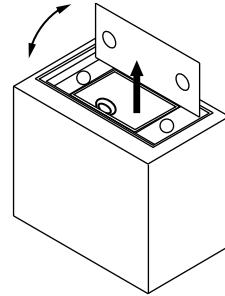

Fig 7
3. Lift up glass cover and remove grease filter (Fig 7).